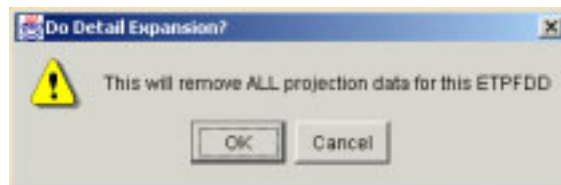

Figure 5.202 Do Detail Expansion? Window
8. Click OK. The Do Detail Expansion? window opens (Figure 5.202).